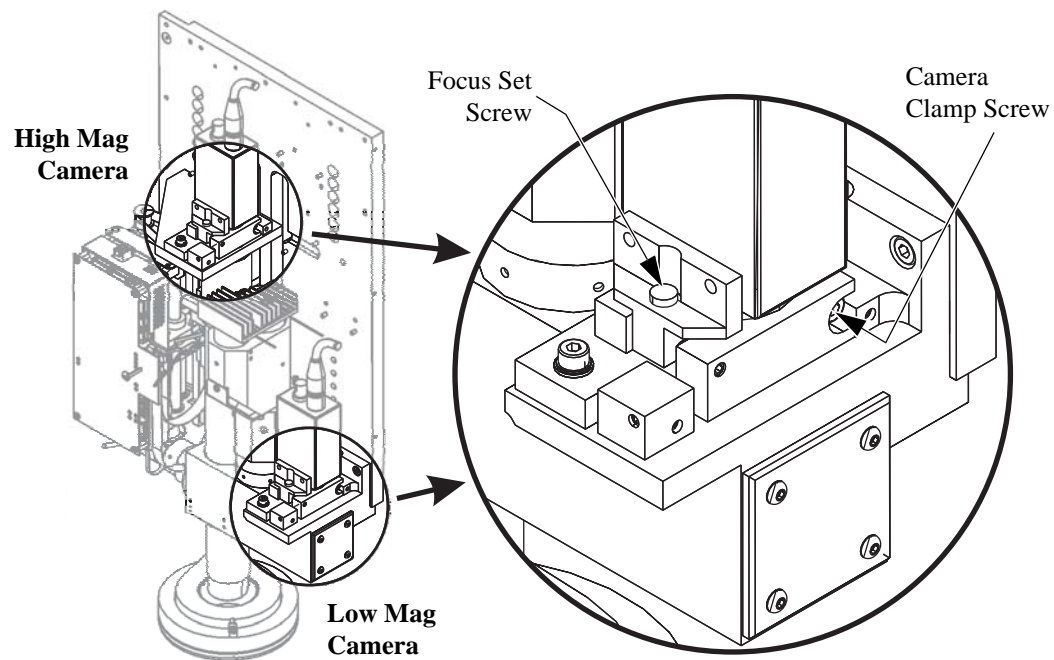

Figure 8-10 Camera Focus Adjustment
17. Click  to select the Grid Focus tool and adjust the focus of the High Mag camera until the best focus is achieved — loosen the camera clamp and adjust the focus set screw shown in Figure 8-10. Re-tighten the camera clamp when finished. If necessary, find the two focus settings where the image goes out of focus and set the focus adjustment midway between them.
20. Adjust the focus of the Low Mag camera until the best focus is achieved — loosen the camera clamp, and adjust the focus set screw shown in Figure 8-10. Re-tighten the camera clamp screw when finished.